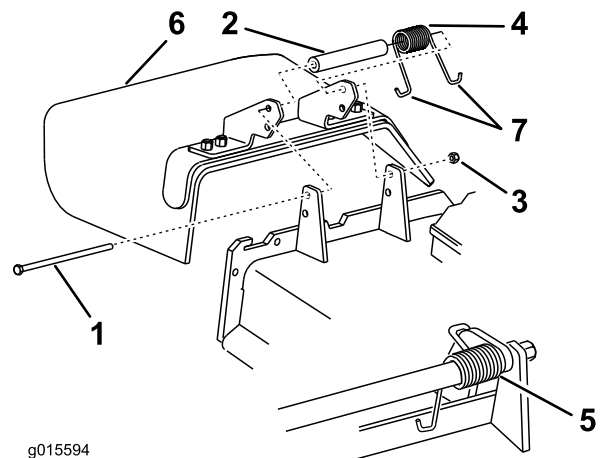

Figure 107
1. Remove the locknut, bolt, spring, and spacer holding the deflector to the pivot brackets (Figure 107).
2. Remove the damaged or worn grass deflector (Figure 107).
Note: Make sure that 1 J-hook end of the spring is installed behind the deck edge before installing the bolt as shown in Figure 107.
6. Place 1 J-hook end of the spring around the grass deflector (Figure 107).